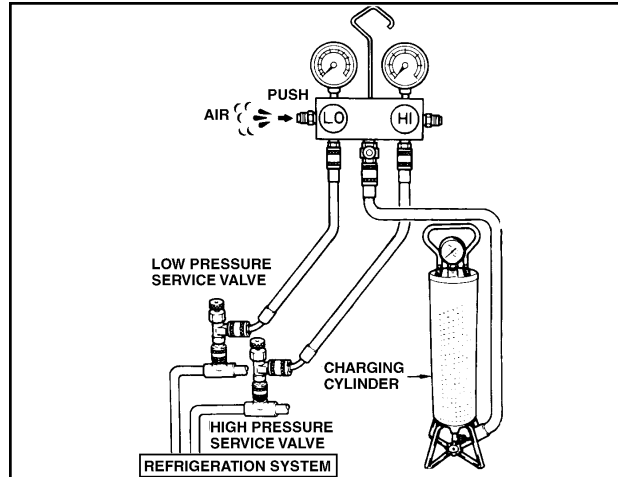

Fig. 124: Purging the System
- 3) Press on the schrader valve, which is on the side of the manifold gauge, and expel the air inside the center hose. (Fig. 124)